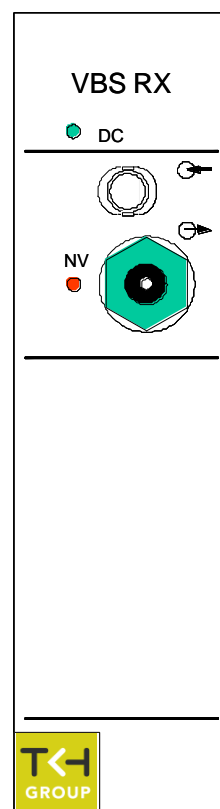

Figure 1.
Figure 1 shows the signal connection facilities and indicators on the front panel of VBS 2010/2040 RX single-channel receivers (see also table 1).
2. Connect optical fiber equipment and video equipment to the modules: optical cabling to the input and video cable to the output (see also figure 1 and table 1).